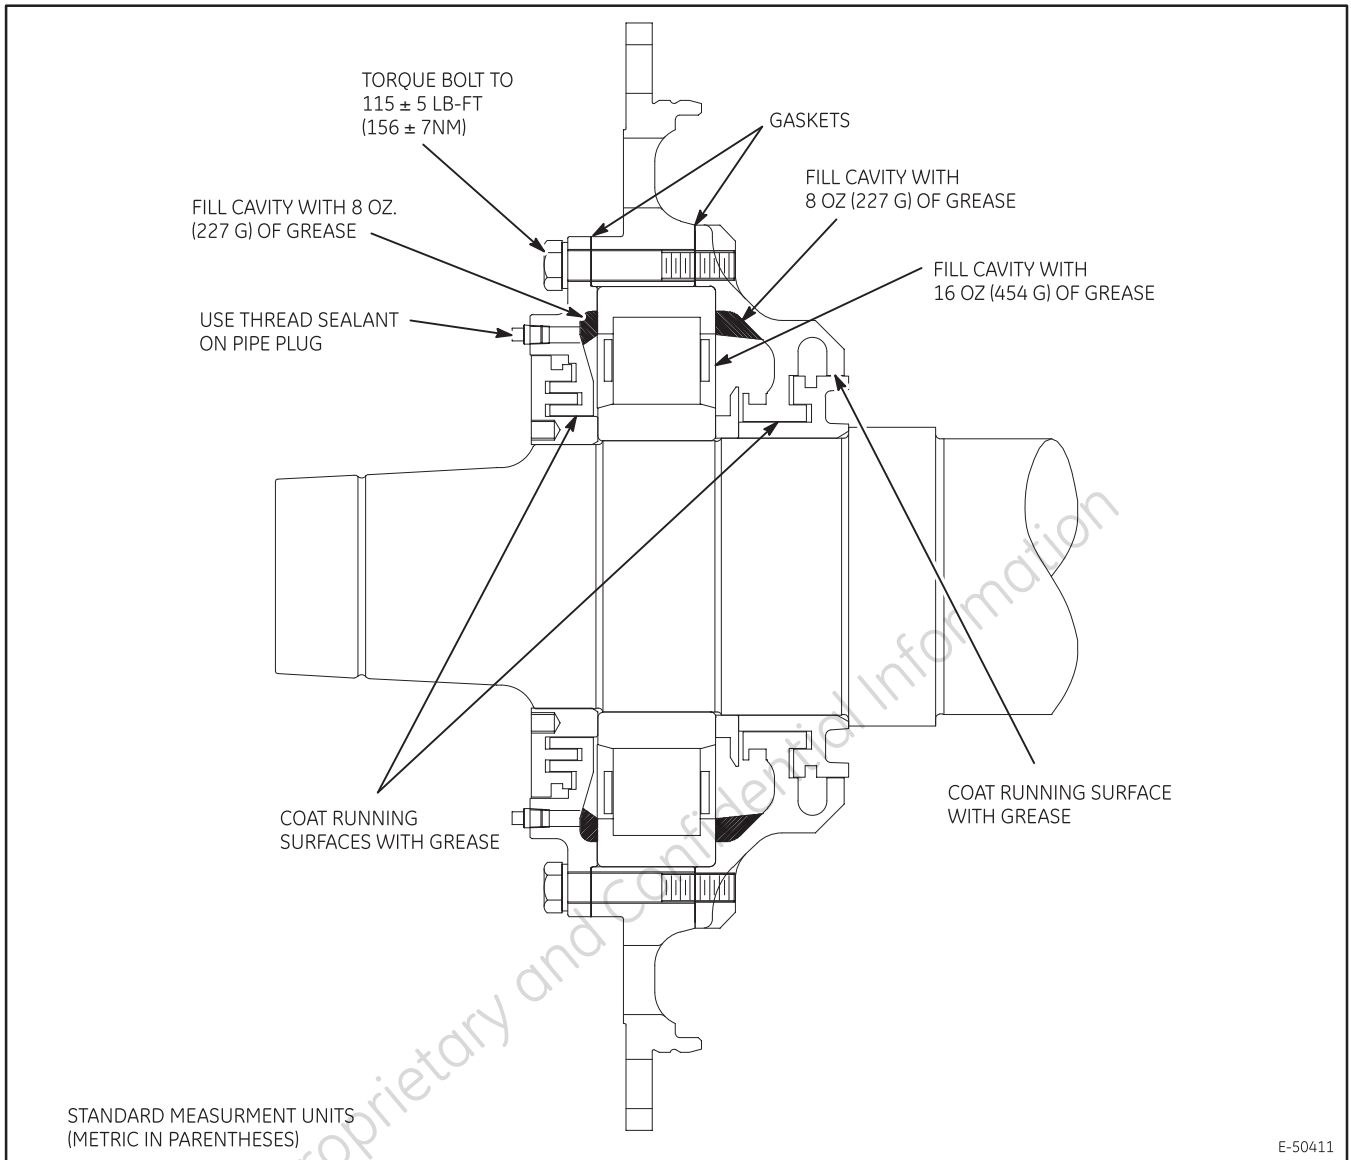

Figure 10. 5GEB22 Drive End (DE) Bearing Assembly.
1. Remove the four bearing clamp (41) retaining bolts and hardened washers (42).
2. Thread two bolts into the bearing clamp (41) jack out holes. Tighten the bolts alternately until the bearing clamp (41) is free of the rotor shaft fit. Remove the bearing clamp and remove the jack out bolts from the bearing clamp.
3. Assemble the bearing puller (GE Tool 41D736059G3), and use the hydraulic jack to pull the connection-end bearing housing (35) and bearing (34) from the rotor shaft.
The following procedures details the drive end (DE) bearing assembly (Figure 10) removal. To remove the DE bearing assembly: